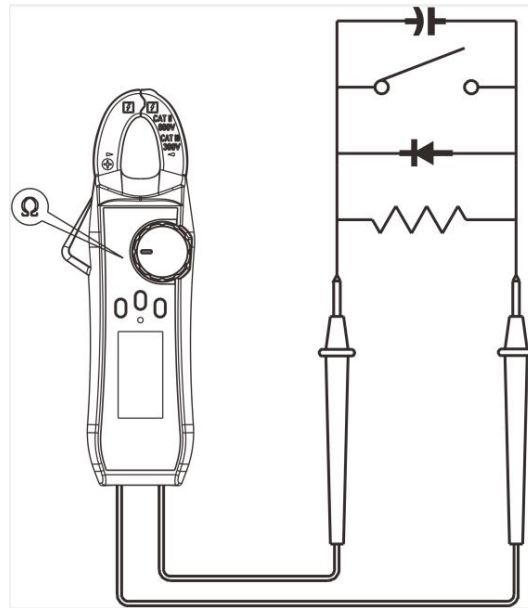

Figure 7
- Connect the probes to the tested part for measurement (Figure 7)